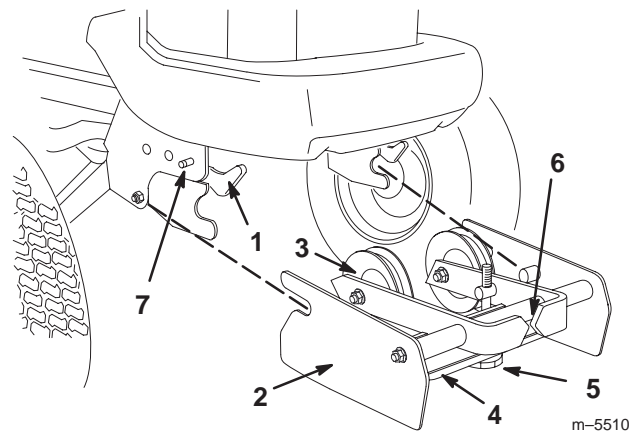

Figure 5
4. Attach the pulley box if it is not already on the tractor (Fig. 5).